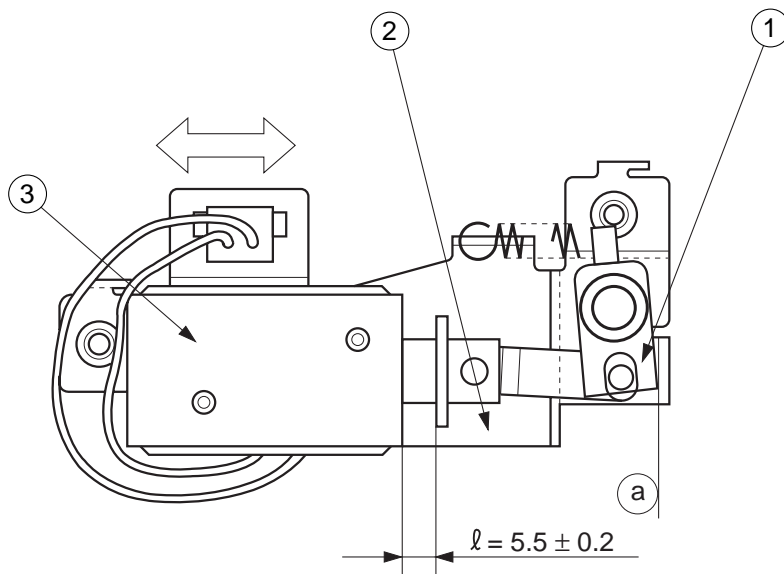

Figure 10-225
Loosen the two screws used to fix the solenoid ③ in place, and move the solenoid in the direction of B so that the ℓ in Figure 10-225 is 5.5 ± 0.2 mm when the joint ① is butted against a of the solenoid support plate ②.